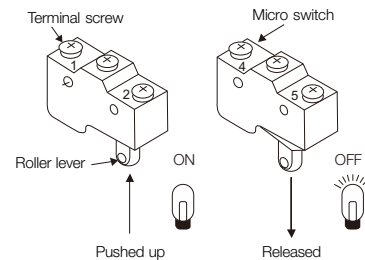

Fig.5 Operation of Micro switch
3. Move the touch roller to confirm that the micro switch is activated at the desired angle refer to Fig.5